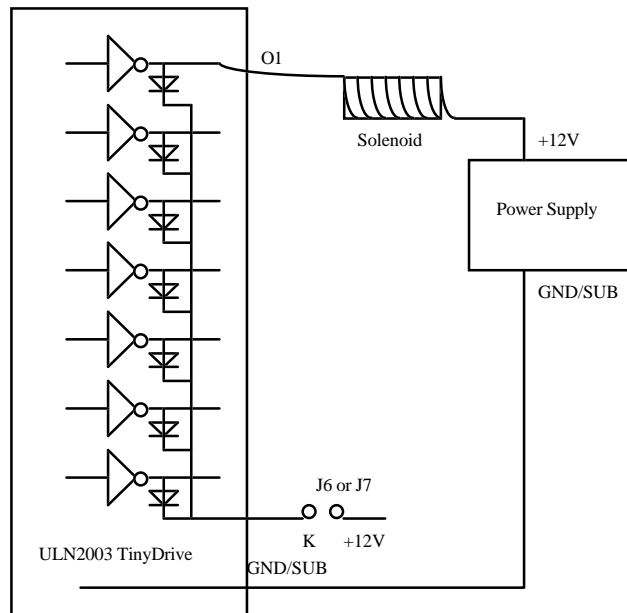

Figure 3.6 Drive inductive load with high voltage/current drivers.
ULN2003 has high voltage, high current Darlington transistor arrays, consisting of seven silicon NPN Darlington pairs on a common monolithic substrate. All channels feature open-collector outputs for sinking 350 mA at 50V, and integral protection diodes for driving inductive loads. Peak inrush currents of up to 600 mA sinking are allowed. U16 and U18 are dedicated high-voltage drivers. These outputs may be paralleled to achieve high-load capability, although each driver has a maximum continuous collector current rating of 350 mA at 50V. The maximum power dissipation allowed is 2.20 W per chip at 25 degrees C ( $^{\circ}$ C). The common substrate G is routed to J6 GND pins. All currents sinking in must return to the J6 GND pin. A heavy gauge (20) wire must be used to connect the J6 GND pin to an external common ground return. K and K1 connect to the protection diodes in the ULN2003 chips and should be tied to highest voltage in the external load system. K and K1 can be connected to an unregulated on-board +12V via J6 HV+. **ULN2003 is a sinking driver, not a sourcing driver.** An example of typical application wiring is shown in Figure 3.6.